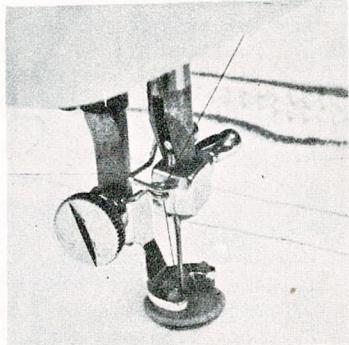

Fig. 28
1. Remove hinged presser foot and attach button sew on foot. (see fig. 28,29).